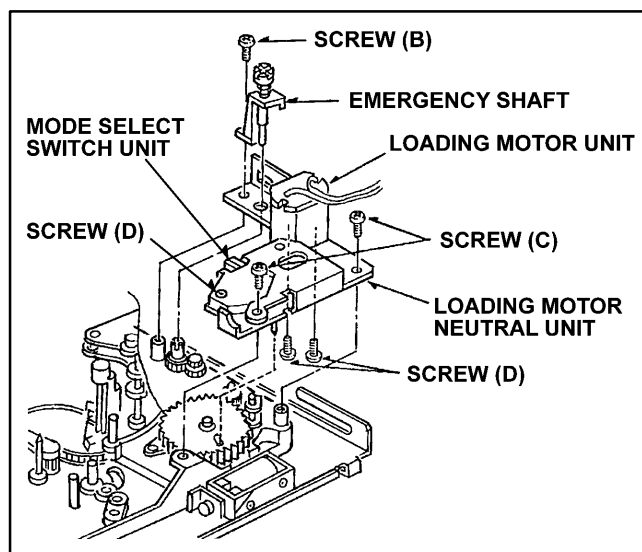

Figure 1-13
1. Disconnect the connector (A) on the P.C.Board (B).
2. Remove the Pinch Solenoid Unit. (Refer to item 1-10).
3. Unscrew the screw (B), and remove the Emergency Shaft as shown in Figure 1-13.
4. Unscrew the 2 screws (C) and remove the Loading Motor Neutral Unit as shown in Figure 1-13.
5. Unscrew the 2 screws (D) and remove the Loading Motor Unit as shown in Figure 1-13.